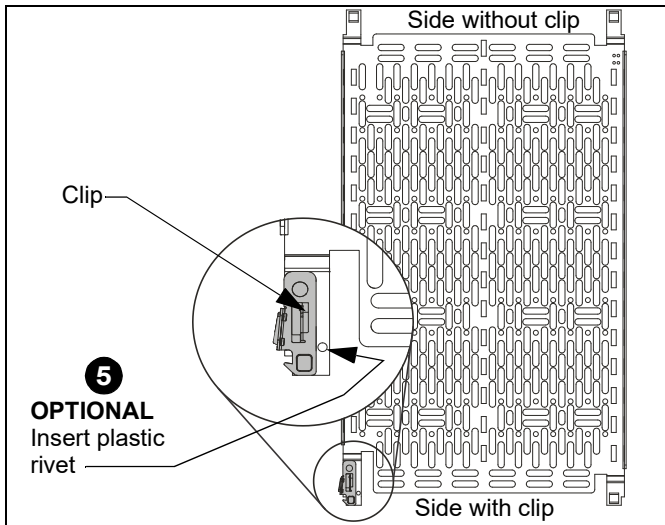

Figure 8
4. Return mounting plate to storage panel by installing the side without the clip into the panel first, followed by the side with the clip until it clicks into place. (See Figure 8)
5. **OPTIONAL:** If desired, install plastic rivet into hole next to clip to secure the mounting plate in place. (See Figure 8)